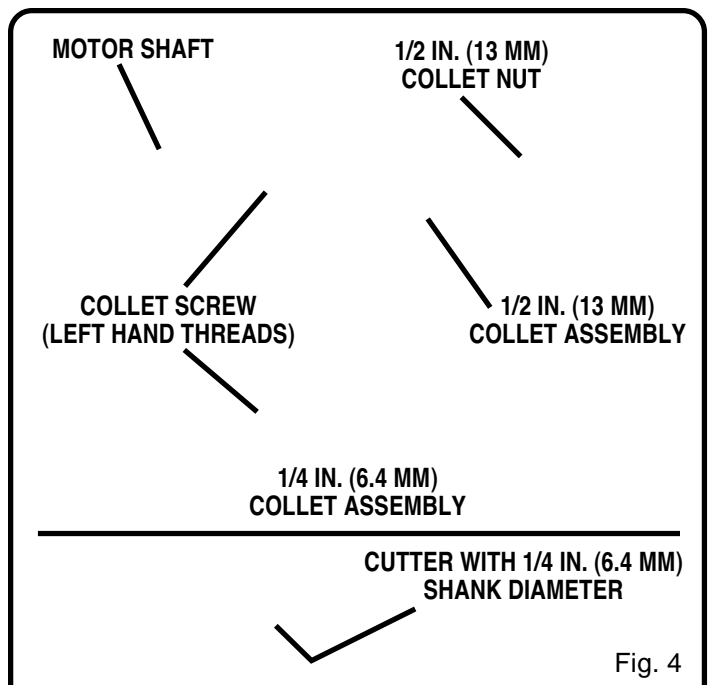

Fig. 4
6. The 1/2 in. (13 mm) collet is machined to precision tolerances to fit cutters with 1/2 in. (13 mm) diameter shanks. A 1/4 in. (6.4 mm) collet assembly has also been provided with your router so that cutters with 1/4 in. (6.4 mm) shank bits can be used. See Figure 4.
See Figure 4.